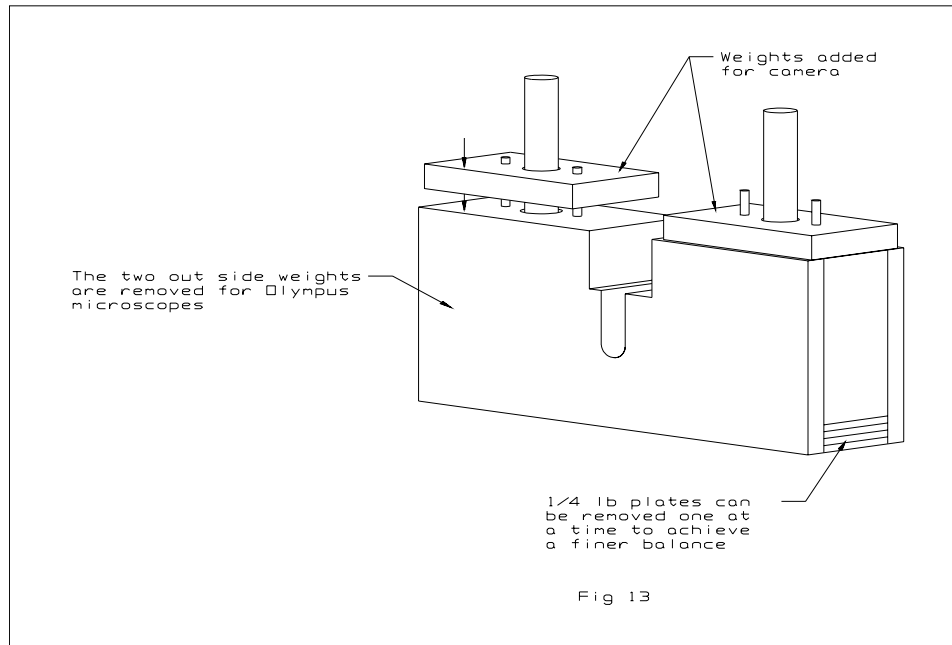

Fig. 30. Adding weight to the counterbalance.
2. Add one or two weights to the counterbalance, as shown in figure 30. The weights are shaped so that they can be installed in only one orientation.